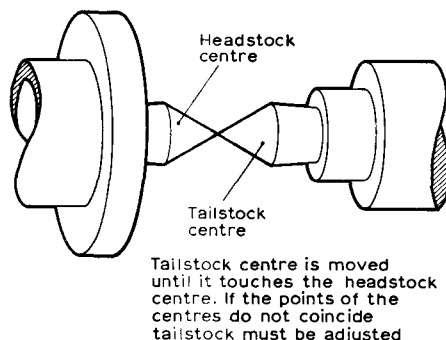

Fig. 4.194 Checking the alignment of the centres
**Checking the lathe centres.** If the lathe centres do not line up properly it is impossible to turn work parallel. The method of checking the centres and the effects of centres which do not run true or do not line up are shown in Figs 4.194 and 4.195.